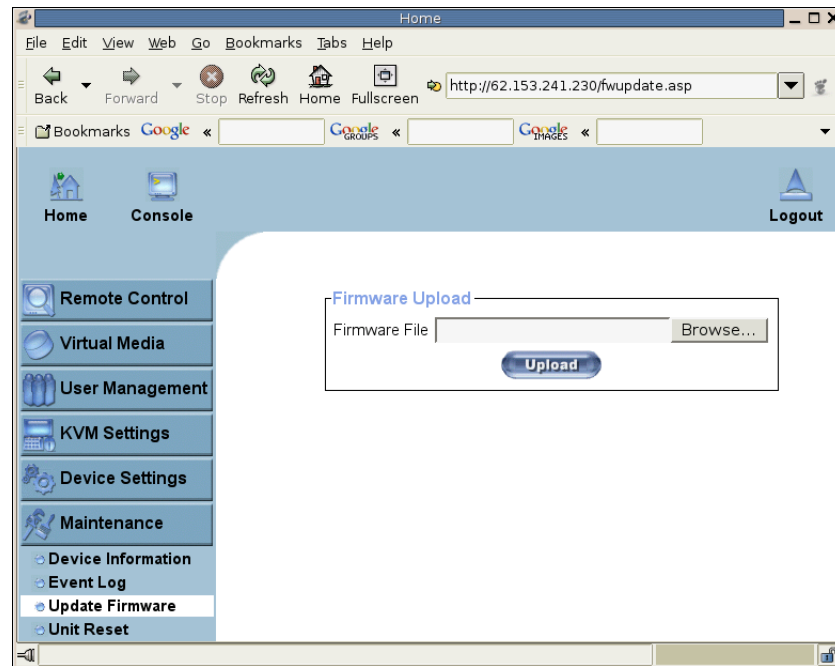

Figure 6-32. Update Firmware
- Firstly, the new firmware file is uploaded onto the LARA eco . In order to do that you need to select the file on your local system using the button “Browse” of the Upload Firmware panel (see Figure 6-32). Then, click “Upload” to transfer the previously selected file from your local file system onto the LARA eco . Once the firmware file has been uploaded, it is checked whether it is a valid firmware file